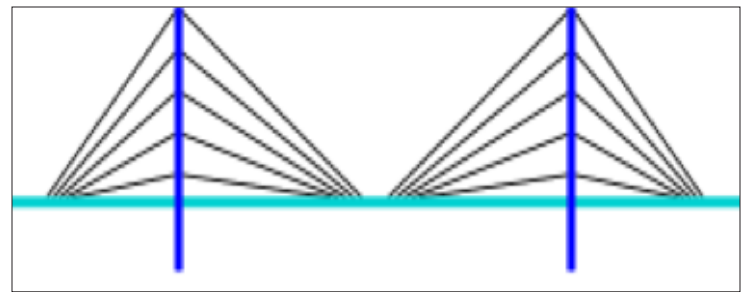

Figure 8 - Star Pattern of Cables
- **Star**, is a less useful pattern which is used rarely and mostly because of architectural requirements. (figure 8)